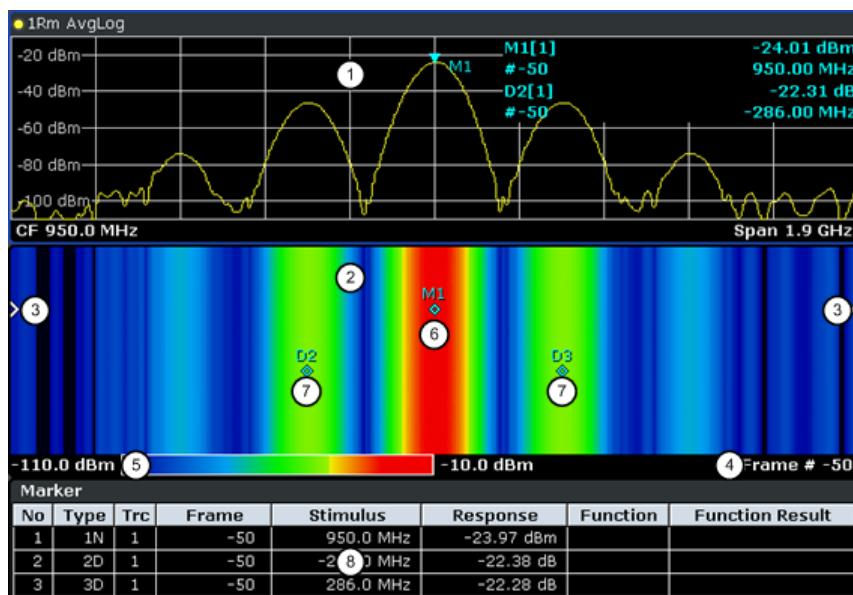

Figure 5-48: Screen layout of the spectrogram result display
- **Spectrum Analyzer result display (1 in Figure 5-48)**